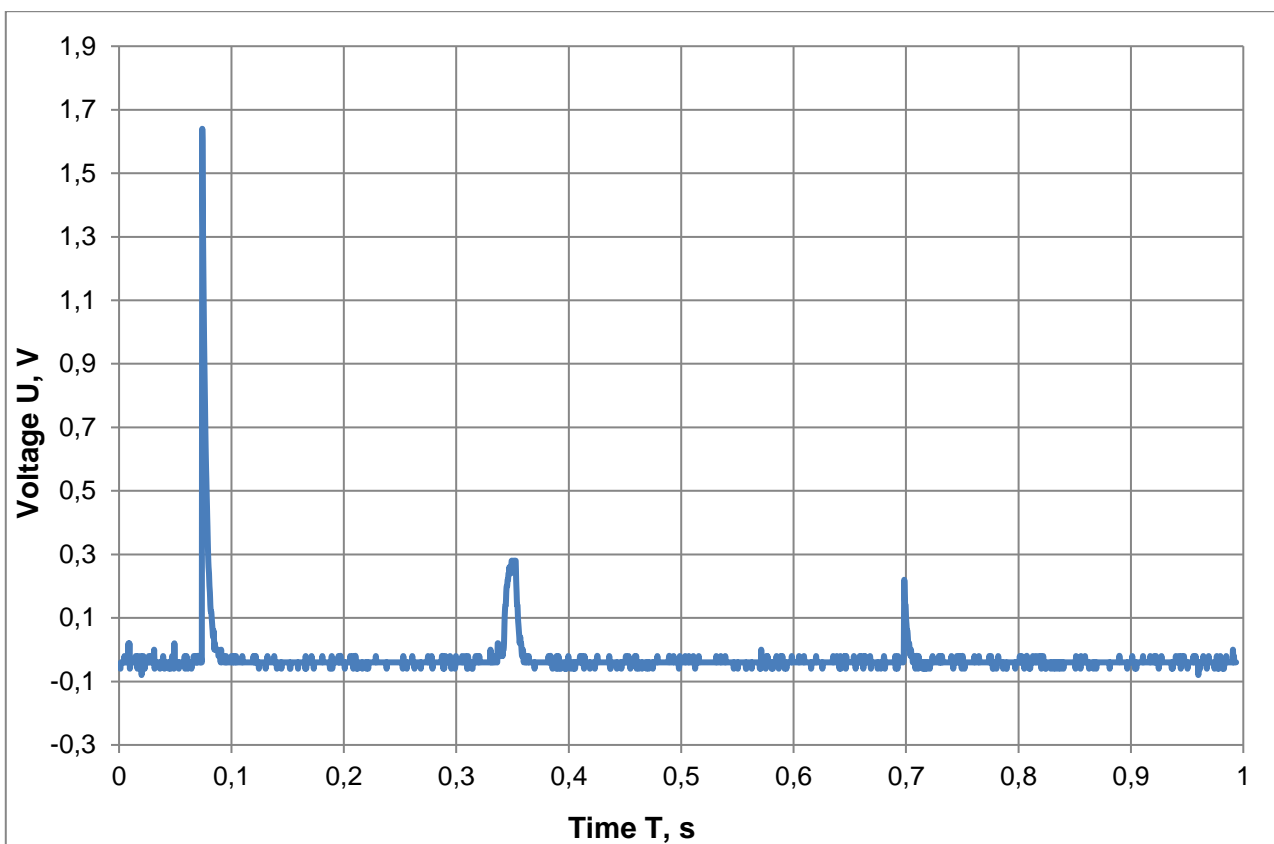

Fig. 1. Typical sensor voltage drop after power up (load resistance R = 100 Ohm)
- During first 0.01 seconds after power up, sensor consumes up to 18 mA (see Fig. 1).